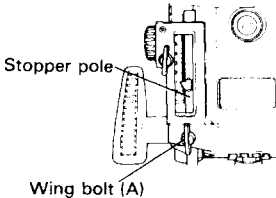
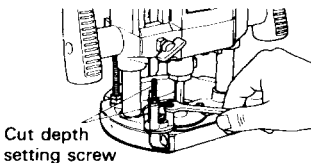

Fig. 7
Fig. 8
(4) As shown in Fig. 7, turn back knob and then tighten the wing bolt (A) when the arrow on the stopper pole indicates the desired cutting depth.
(5) Loosen the lock lever and press the main unit down until the stopper pole comes in contact with the stopper block to obtain the desired cutting depth.
(6) The two cut-depth setting screws attached to the stopper block can be adjusted to simultaneously set three different cutting depths. As shown in Fig. 8, use a wrench to tighten the nuts so that the cut-depth setting screws do not come loose at this time.